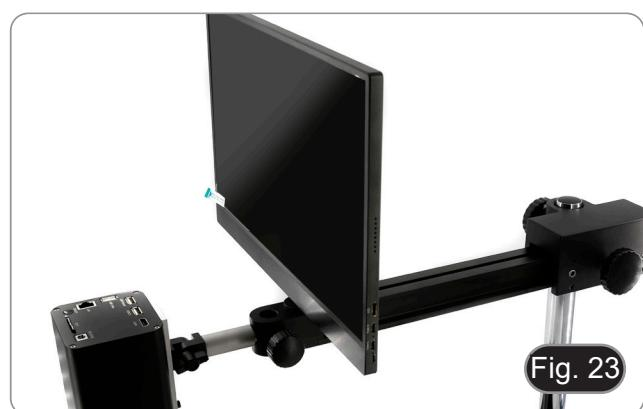

Fig. 23
2. The arm can be extended or shortened according to specific needs. (Fig. 23)